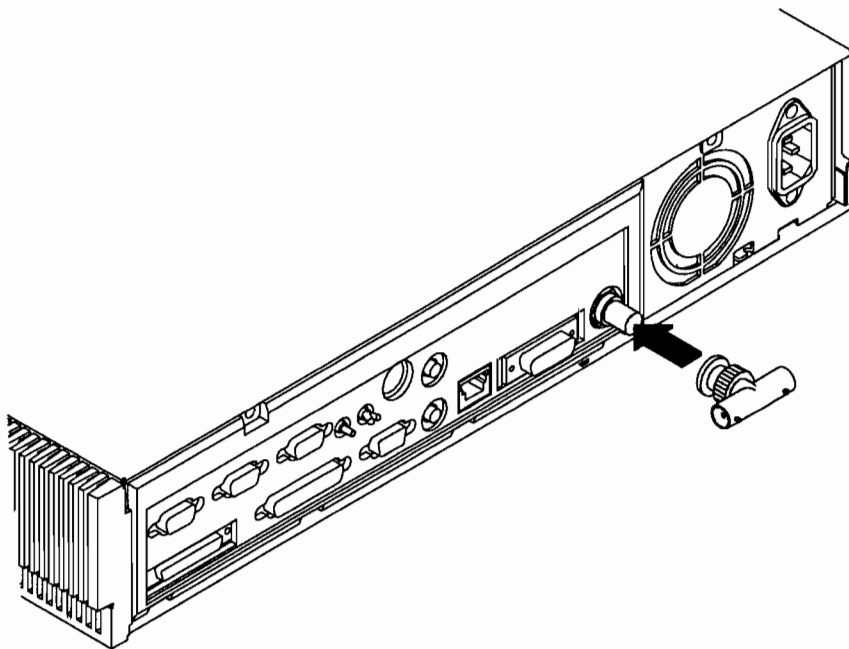

Figure 9-7. Connecting the 802.3 Cable to the LAN Connector
1. To connect the system to an 802.3 network by using an on-board transceiver, you'll need to connect the network cable to the T-connector that attaches to the system unit's EtherLAN BNC connector. Push the T-connector onto the system unit's BNC connector as shown in Figure 9-7. Turn the sleeve clockwise one quarter turn until it stops.